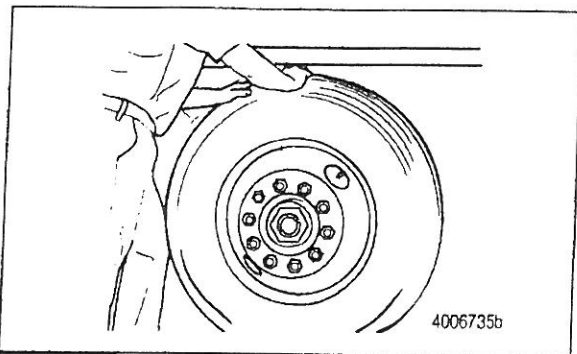

Figure 1
- Grasp the tire and wheel-end assembly at the 12 and six o'clock positions. Check for vertical and horizontal movement. With your hands, apply approximately 50 lb (23 kg) of force to the assembly. You should not feel or see any looseness or movement. Figure 1.